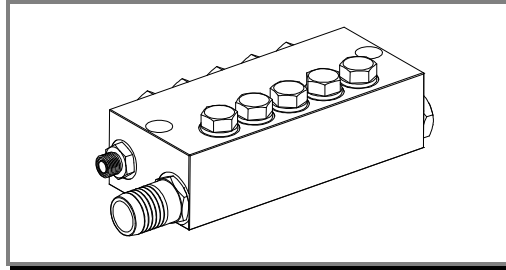

Fig. 12: Manifold Assembly
Insert the high-pressure seal (36) into the bore until the seal is fully seated on the high-pressure seal spacer (35), using the seal insertion tool. See Fig. 12 for high-pressure seal installation view.